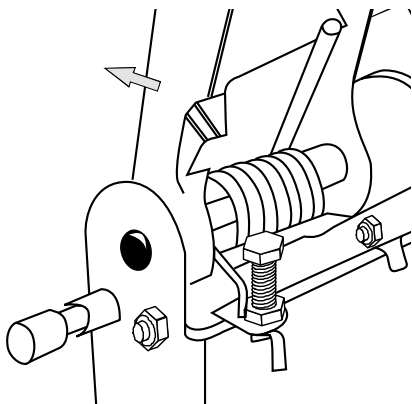

Figure 1
1. Lift the swing arm upward as far as it will go. (Figure 1)
Reset the depth stop as shown in Fig. 1. The new blade will be larger and will damage the work surface if the depth stop is not re-adjusted.